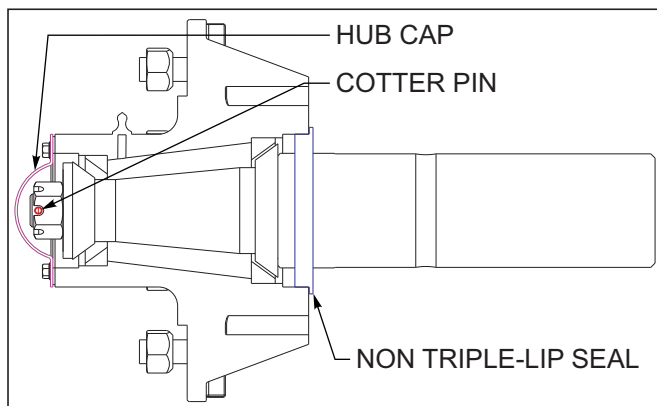

Figure 4-13: Non-Triple Lip-Seal
10. Install a new cotter pin, dust cap and gasket. Do not over-tighten the dust cap screws causing the gasket to come out See Figures 4-13.